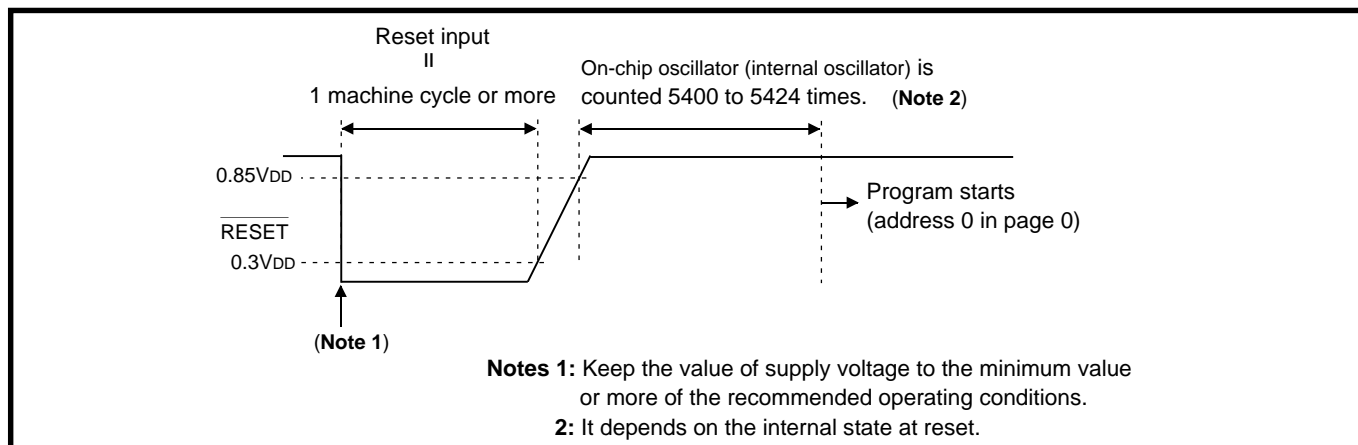

Fig. 2.7.2 Oscillation stabilizing time after system is released from reset
- Then when “H” level is applied to  $\overline{\text{RESET}}$  pin, the program starts from address 0 in page 0 after elapsing of the internal oscillation stabilizing time (On-chip oscillator (internal oscillator) clock is counted for 5400 to 5424 times). Figure 2.7.2 shows the oscillation stabilizing time.